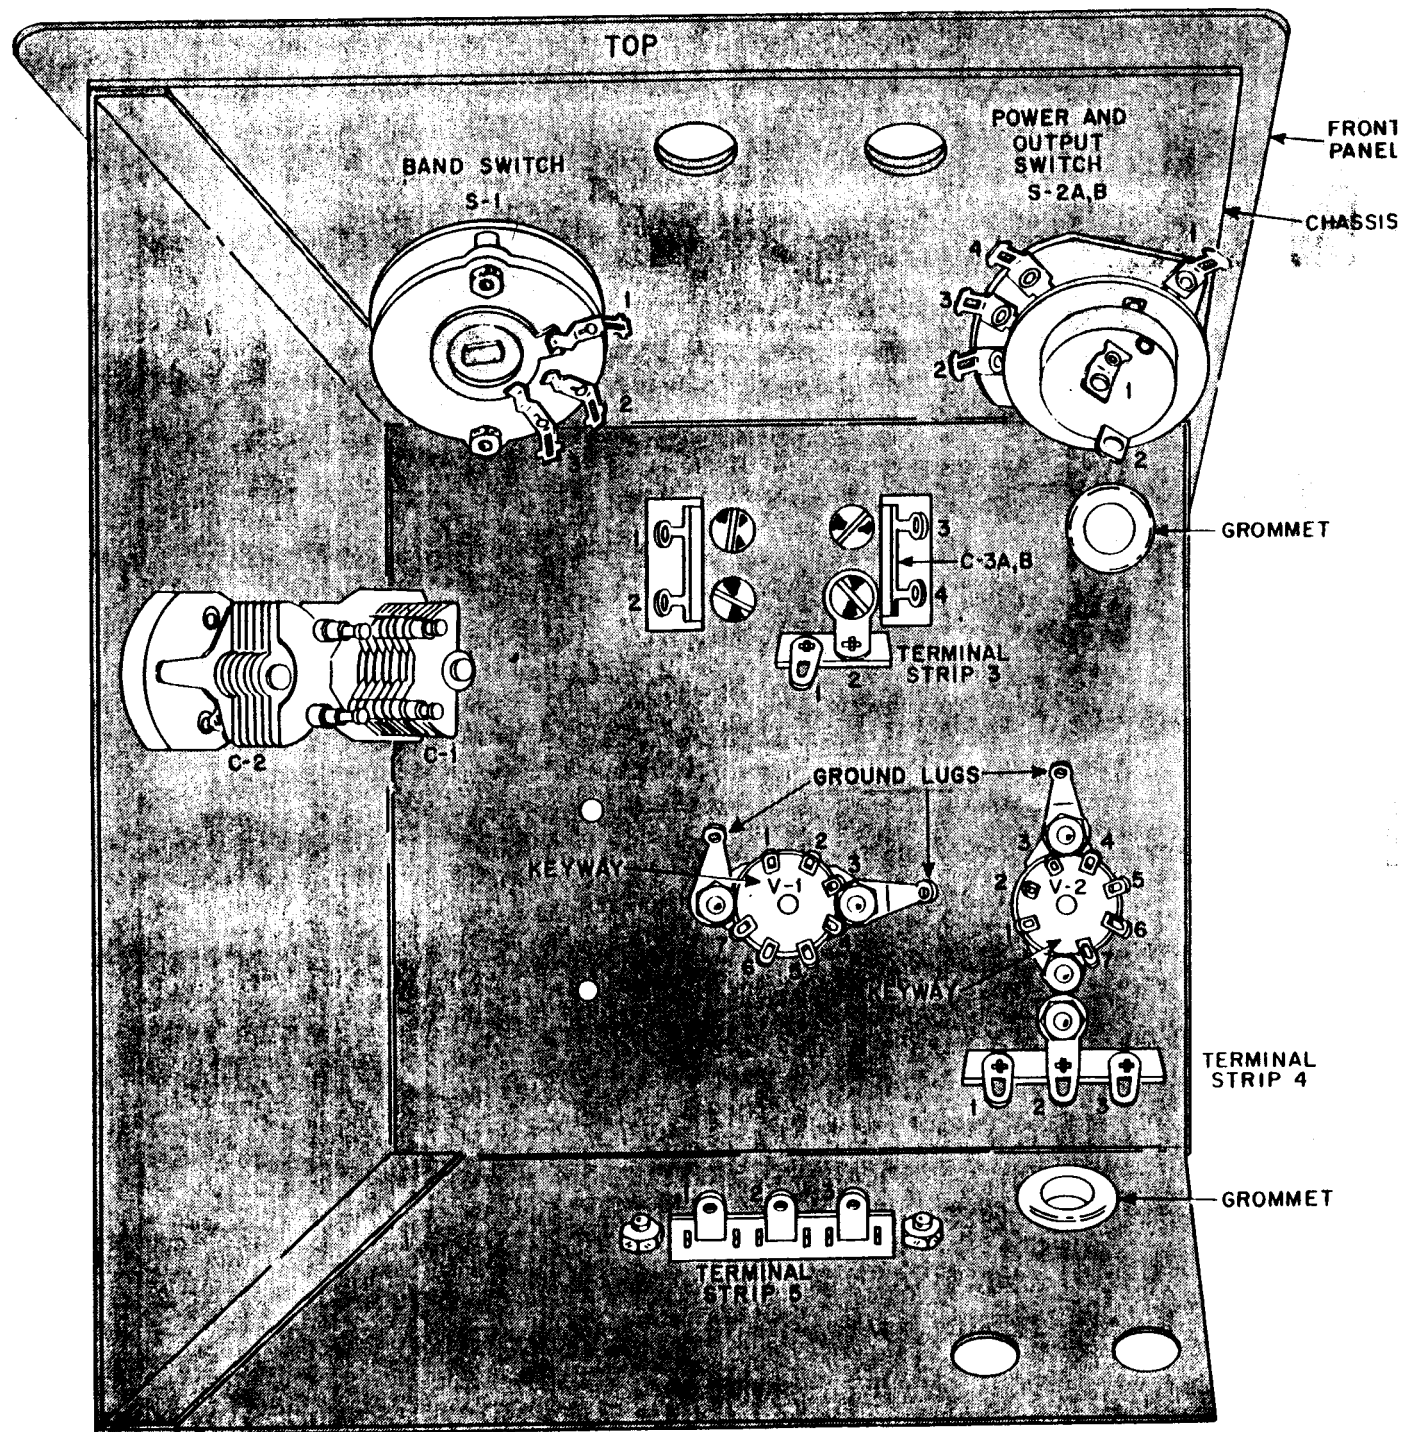

FIGURE 6. HOW TO MOUNT THE PARTS ON THE OSCILLATOR CHASSIS
## SEE FIGURE 6.
- ( ) Mount the light colored socket for V-1, the 6BH6 oscillator tube, inside the chassis in the large hole nearer the center. The keyway or wide space between two of the pins must be toward the left as shown in Figure 6. Place a ground lug under each mounting nut and use two of the smaller machine screws and nuts to fasten V-1.
- ( ) Mount the last bakelite socket for V-2, the 6AK6 buffer tube, from inside the chassis. The keyway or wide space between two of the pins must be toward the back of the chassis as shown in Figure 6. Put a ground lug under the front mounting nut and use two of the smaller machine screws and nuts to fasten V-2.
## SEE FIGURES 6 AND 7.
**SEE FIGURES 6 AND 8**
- ( ) C-1 and C-2 are both 75 MMFD air padder capacitors. Mount one on the left inside the chassis as shown in Figure 6. Use two of the four machine screws packed with C-1 and C-2. Use the other two machine screws to mount the other air padder right above the first.
- ( ) Check all of the work. Be sure the parts are positioned as shown in Figure 6. The socket keyways must be as shown, the terminals on the switches must be toward each other, and the air pad- ders must be as shown.